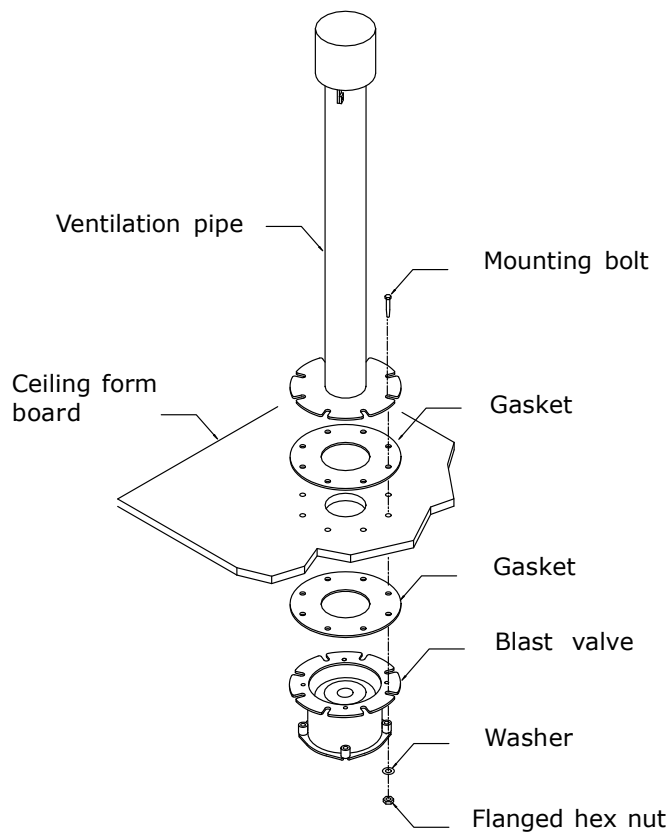

Figure G-5
4. Air ventilation 4-inch, figure G-5.
3. Using the 8 each $\frac{1}{2}$ inch X 3 inch length bolts, sandwich the assembly together as shown in figure G-5.